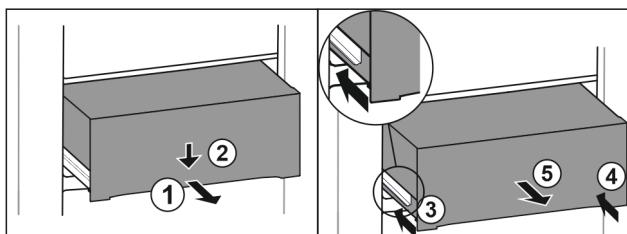

Fig. 156
- ▶ Pull out drawer half-way. Fig. 156 (1)
- ▶ Push the drawer down at the front. Fig. 156 (2)
- ▶ Push the left rail in by about 2 cm. Fig. 156 (3)
- ▶ Push the right rail in by about 2 cm. Fig. 156 (4)
- ▶ Remove drawer to the front. Fig. 156 (5)